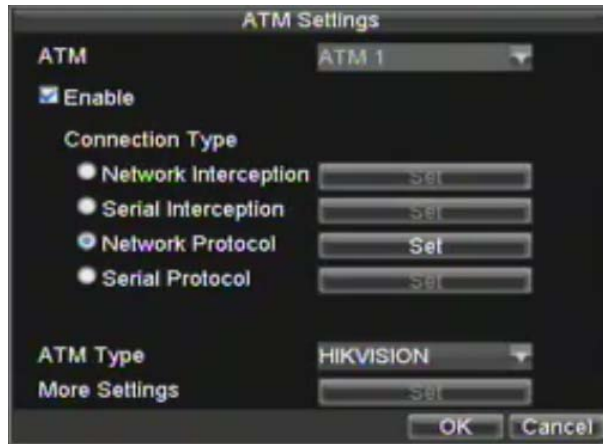

Figure 11. ATM Settings Menu
1. Enter **ATM Setting** menu, shown in Figure 11. Click Menu > Setting > ATM to enter ATM Settings menu.